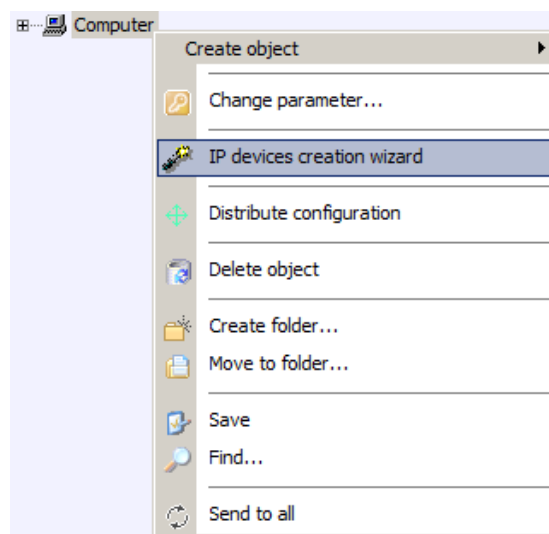

Figure 3.2-4 The IP Wizard item in the context menu of the Localhost object
*Note. The **IP Wizard** window can also be displayed by selecting the **IP Wizard** item in the context menu of the **Localhost** object (Figure 3.2-4).*